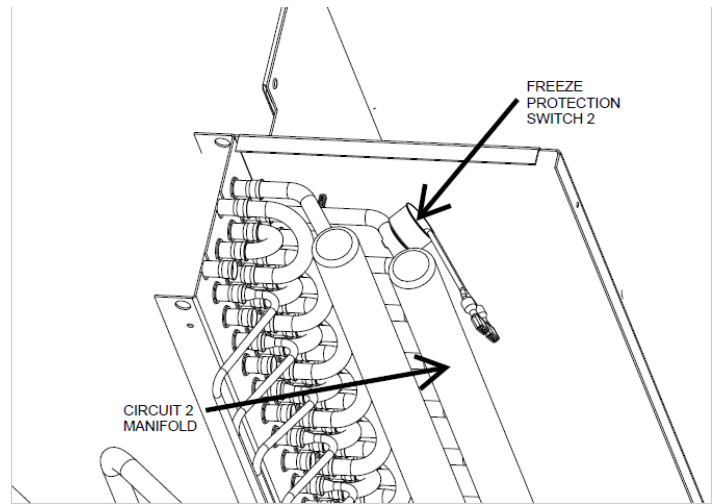

FIGURE 8
- Circuit 2 : Clip the Freeze stat switch to the second manifold tube on Circuit 2 coil. Connect black wires from the switch to the purple wire quick connects. Switch connections are not polarity sensitive. (Figure 8)